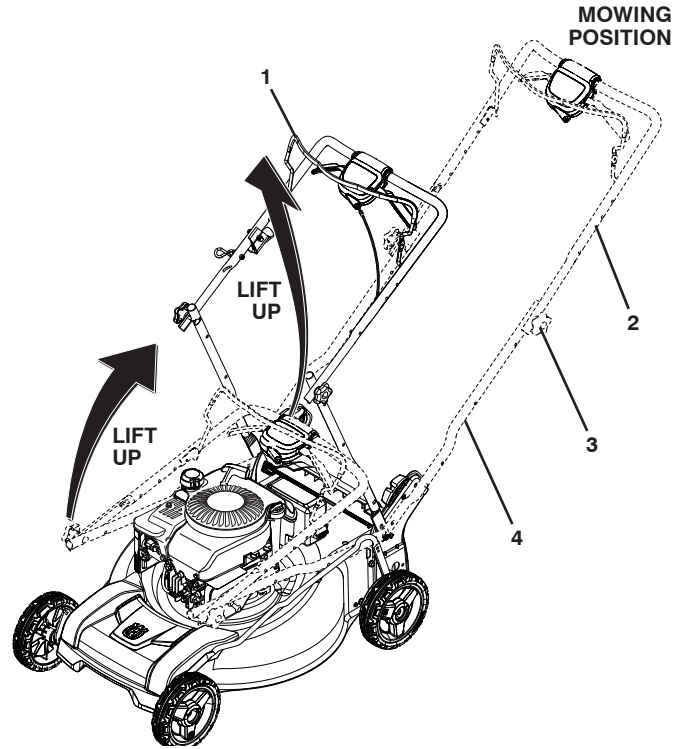

Figure 3
1. Raise lower handle section to operating position and align hole in handle with one of three height positioning holes (Figure 3).